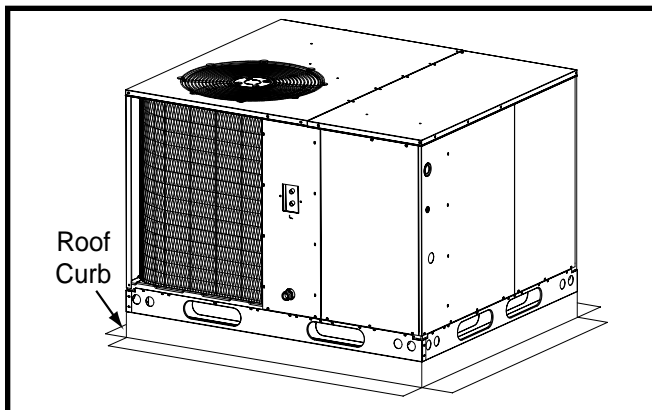

Figure 5. Roof Top Installation
- The appropriate accessory roof curb (Figure 5) must be installed prior to unit installation. The roof curb must be square and level to ensure proper condensate drainage.